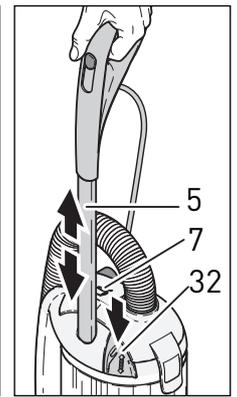

Figure 4
2. Adjust the telescopic handle tube (5) to the correct height by pulling out the handle release lever (32) and gently pulling the tube out to lengthen, or pushing it in to shorten. The tube will click into place when it reaches one of the three lengths available. Release the tab. If the tab does not fit snugly in place, the tube is set at an incorrect setting. Pull or push the tube until it locks into one of the three settings - see figure 4.
## Full Bag or Clog Indicator - Figure 4
When a full bag, a clog in the airflow pathway, or an excessively dirty microfilter is detected, an indicator gauge on the bag housing lid (7, figure 4) “fills” with orange color. The user should turn the switch off, unplug the machine and immediately insert a new bag or remove the clog (to remove a clog, refer to the Clog Removal section on page 12). If the airflow is still restricted, the “BAG FULL OR CLOG” indicator will again display orange to indicate a clog. If the clog is not removed, a bypass valve will open to allow more air into the motor compartment to keep the motor cool.